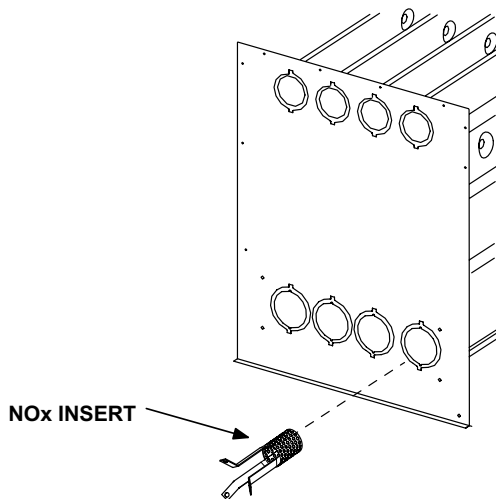

FIGURE 23
- 7 - **NOx units only** - Remove the three screws that attach the NOx insert to the corbel at the entrance to each heat exchanger section. Carefully remove the NOx insert from each section. See figure 23.
- 15- **NOx units only** - Reattach the NOx inserts to the corbels at the entrance to each heat exchanger opening. See figure 23.